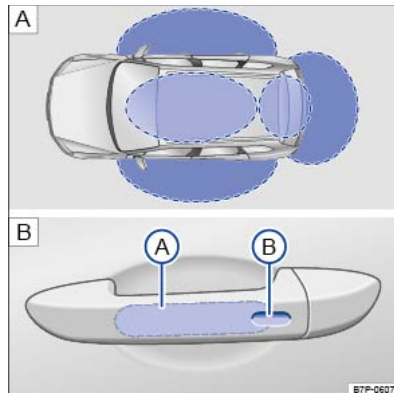

Fig. 66 Keyless Access locking and starting system: operating range. Sensor surfaces of the central locking system.
The keyless locking and starting system Keyless Access enables the vehicle to be locked and unlocked without active use of the key. For this purpose, a valid vehicle key must be within the vehicle's range ⇒ Fig. 66 **A**. The vehicle or boot lid is unlocked or locked by touching the sensor surfaces on the front door handles or pressing the button in the boot lid ⇒ *Boot lid* ⇒ .
- Touch the sensor surface ⇒ Fig. 66  on the inside of the driver or front passenger door handle.
- Touch the sensor ⇒ Fig. 66  on the outside of the driver or front passenger door handle *once*.
If the vehicle is locked and a valid vehicle key is located within the operating range ⇒ Fig. 66  of the boot lid, the boot lid automatically unlocks when you open it with the handle button.